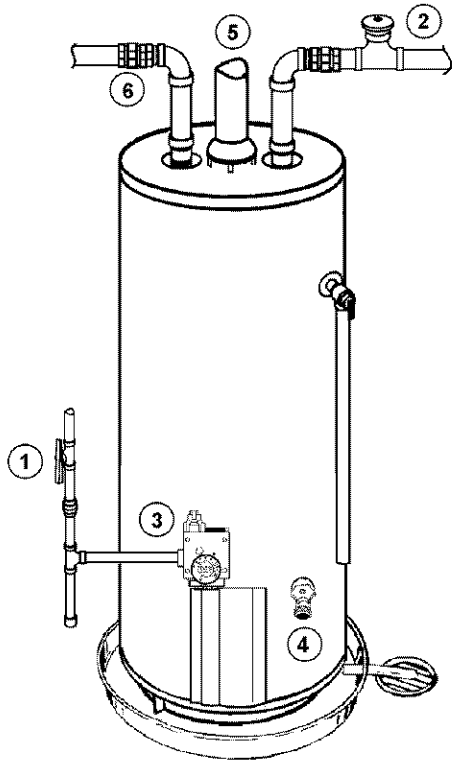

FIGURE 2.
If the main gas line Shut-off valve serving all gas appliances is used, also shut "OFF" the gas at each appliance. Leave all gas appliances shut "OFF" until the water heater installation is completed, see Figures 2 and 3.
2. Turn "OFF" the water supply to the water heater at the water shut-off valve or water meter. Some installations require that the water be turned off to the entire house, see Figures 2 and 4.
4. Attach a hose to the water heater drain valve and put the other end in a floor drain or outdoors. Open the water heater drain valve. Open a nearby hot water faucet which will relieve pressure in the water heater and speed draining. The water passing out of the drain valve may be extremely hot. To avoid being scalded, make sure all connections are tight and that the water flow is directed away from any person, see Figures 2 and 5.